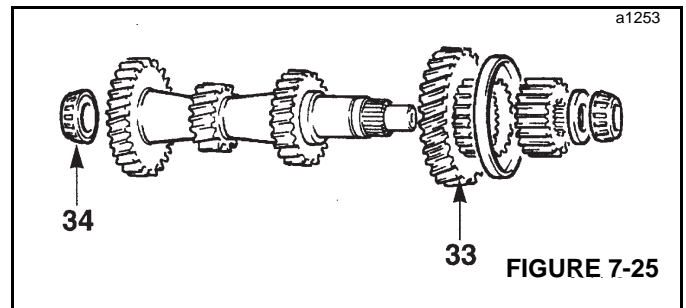

FIGURE 7-25
- 33. Pull off 3rd gear, synchro-hub and bearing (33, Figure 7-25) from the main shaft using a suitable bearing puller.
- 34. Using a suitable bearing puller, remove bearing (34) from the mainshaft.